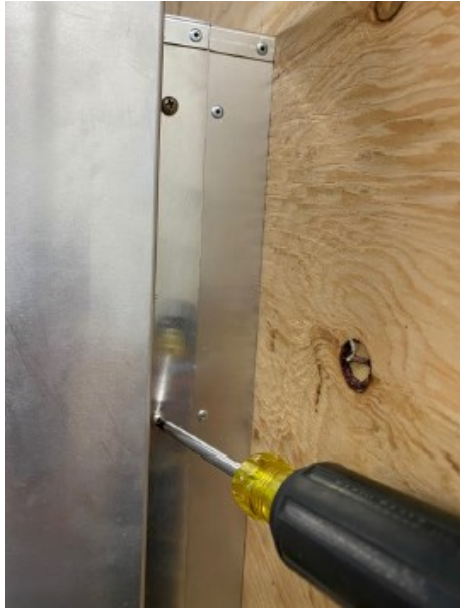

Figure 4.1 - Remove Cover Assembly
1. Remove (3) screws securing the vinyl siding heat deflector to the HTK-EXT base.
2. Remove (3) screws along each side of the cover assembly. Remove cover assembly from the base of the HTK-EXT. See FIGURE 4.1.